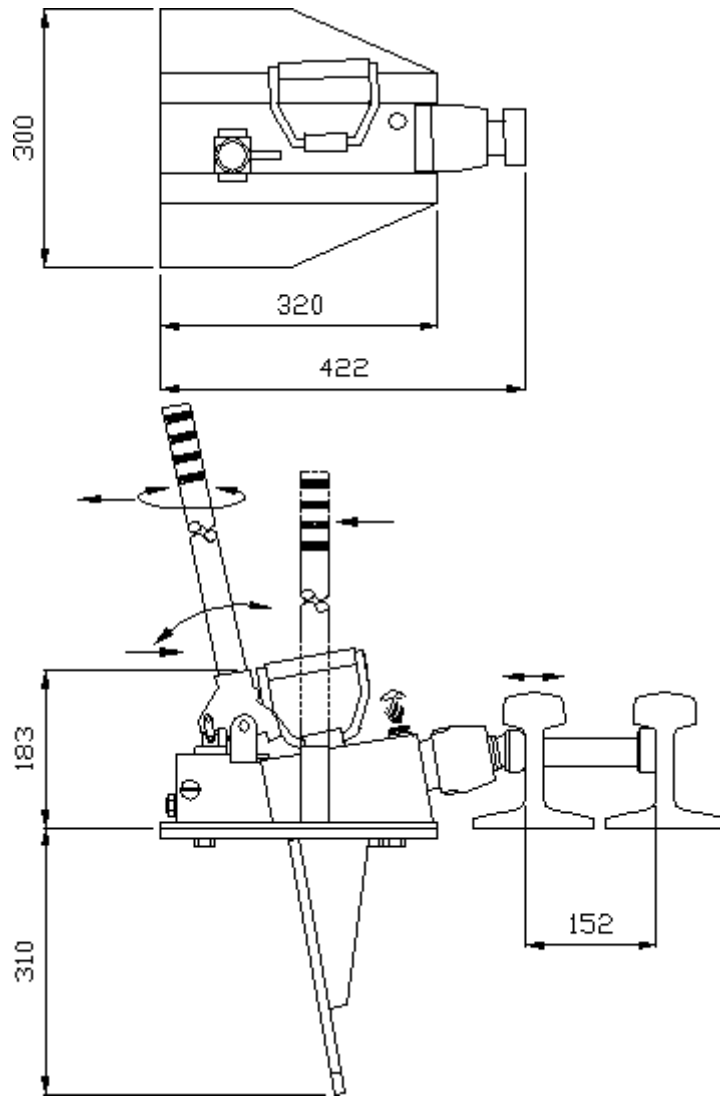

Fig 1.
1. Remove ballast close to the rail to a sufficient depth for the blade to locate in the ballast. The Track Aligner should be used inside the track with its swivel head positioned against the web of the rail (see Fig 1). The Track Aligner may be manoeuvred into position with the pump handle inserted into the tube provided on it. Do not use the pump saddle for moving the unit. When in position, replace ballast behind the blade for it to react against.